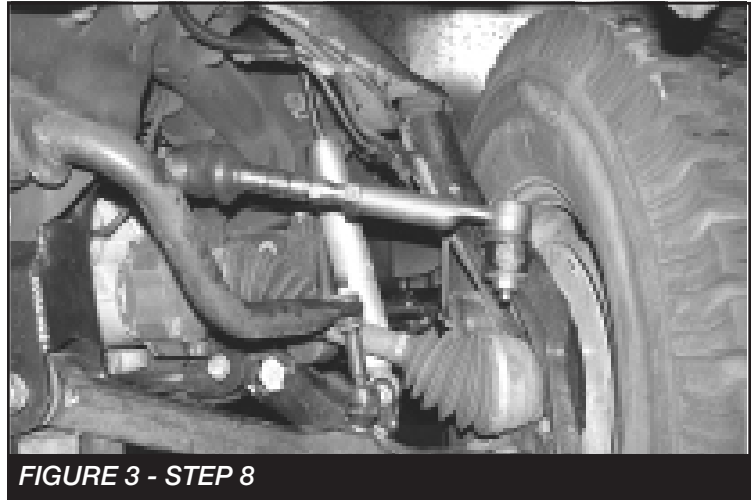

FIGURE 3 - STEP 8
8. Working from the drivers side if the truck, attach the previously assembled inner/outer tie rod assembly to the factory center link. When installing the inner Tie Rod end you will need to put a small amount of the supplied thread locking compound on the threads on the inner Tie Rod end before installing it to the center link. You will need use a large Crescent wrench to tighten the new tie rod end to the center link. Torque to 100 ft. lbs. **SEE FIGURE 3**